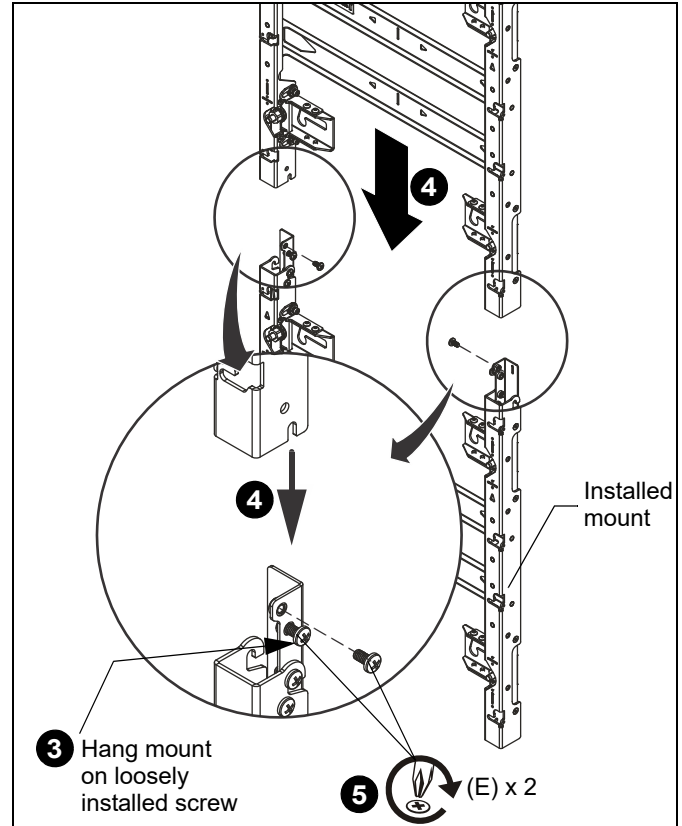

Figure 22
3. Make sure the 1/4-20 x 1/2" Phillips head screw (E) is already loosely installed in the vertical connector (P) on both sides of the mount. (See Figure 22)
5. Install two 1/4-20 x 1/2" Phillips head screws (E) into upper hole on both vertical connectors, and tighten all screws. (See Figure 22)